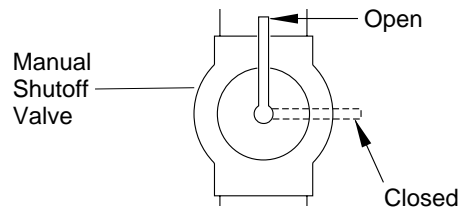

Figure 16 - Manual Shutoff Valve
1. Close manual shutoff valve (see Figure 16).
3. Check all joints from propane supply tank to manual shutoff valve (see Figure 16). Apply mixture of liquid soap and water to gas joints. Bubbles forming show a leak.
1. Open manual shutoff valve (see Figure 16).
4. Check all joints from manual shutoff valve to thermostat gas valve (thermostat-controlled models) or control valve (manually-controlled models) (see Figure 16). Apply mixture of liquid soap and water to gas joints. Bubbles forming show a leak.